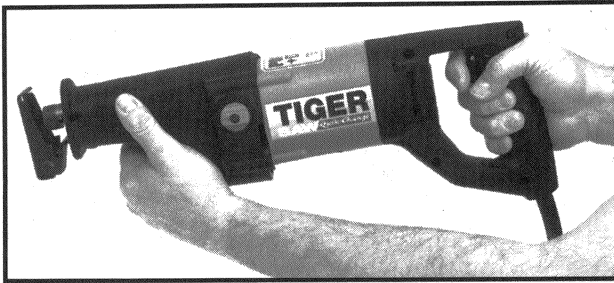

Fig. 1
1. **ALWAYS** hold saw as shown in Fig. 1 to prevent accidental electrical shock resulting from cutting a live wire when sawing into a wall or other blind area.
**WARNING:** TO PREVENT ACCIDENTAL ELECTRICAL SHOCK THE SAW MUST BE HELD AS SHOWN IN FIG. 1, AND HAVE THE RUBBER FRONT HOUSING COVER PROPERLY INSTALLED AND NOT DAMAGED.